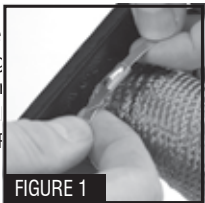

FIGURE 1
STEP 2: Put your thumb or finger on the locking mechanism and push the locking tie through until tight. Be careful as the sides of the metal ties can be sharp. Figure 1 & 2